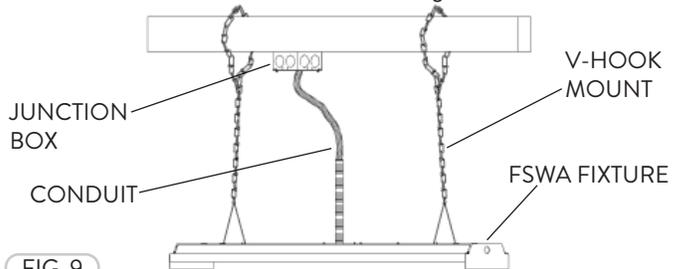

FIG. 9
- 4 Attach the Power Supply. Refer to the wiring diagram. V-Hook Mount with Conduit and Junction Box (Fig. 9).